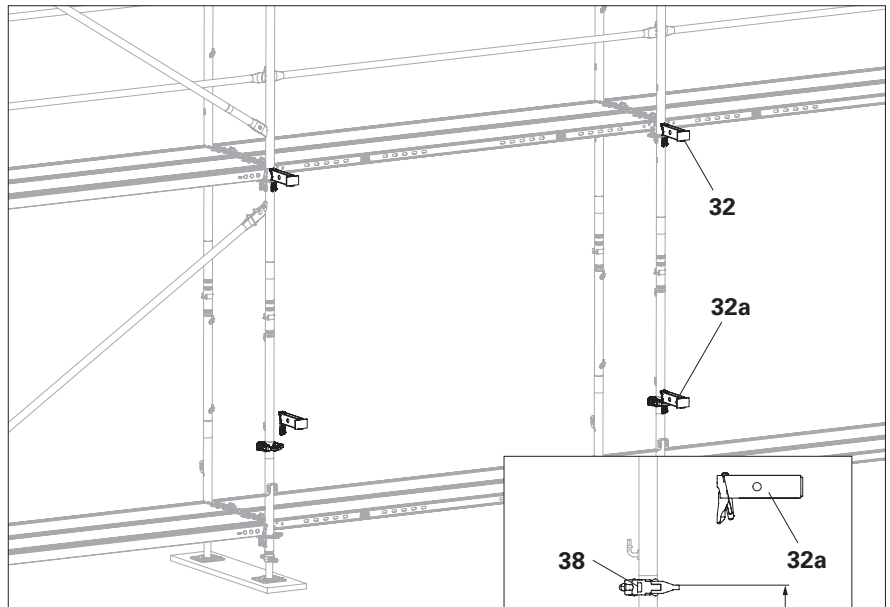

Fig. C1.01
3. Mount the UC 25 (32a) supports in the clamping rosettes. Secure the wedges. (Fig. C1.01)